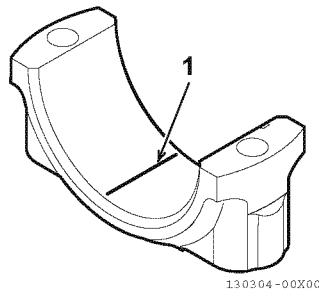

Fig.12-2
- 3 - Place PLASTIGAGE (1, Fig.12-2) along the full width of the bearing.